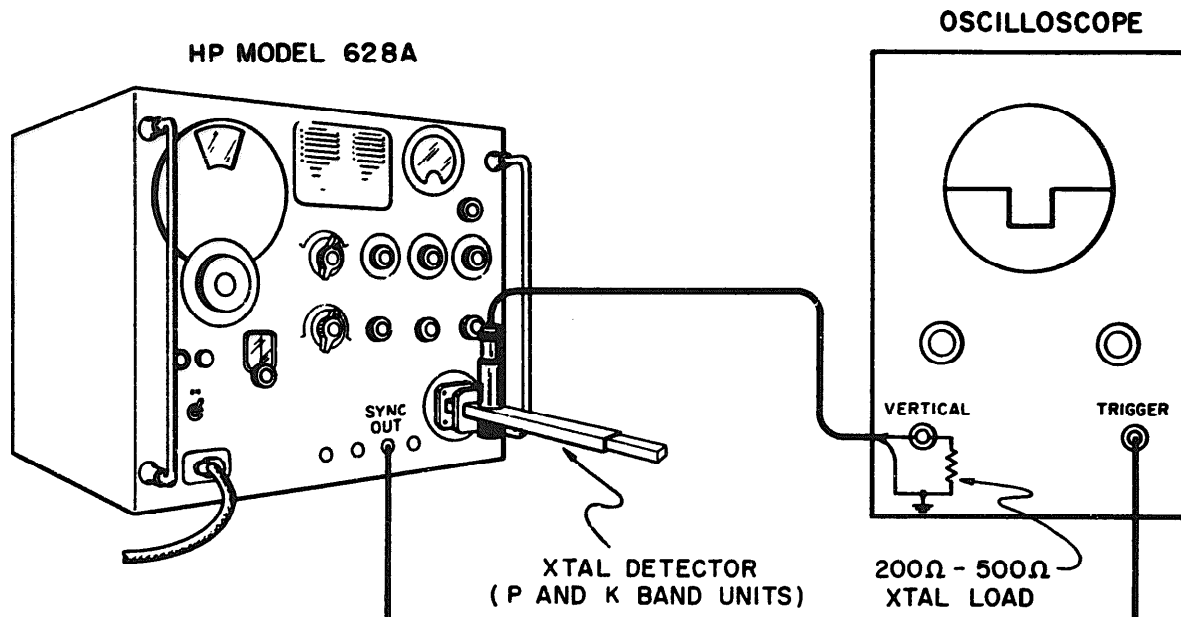

Figure 5-12. Calibration Test Setup
a. Connect test setup as shown in Figure 5-12.
a. Connect test setup as shown in Figure 5-12. DELAYED SYNC OUT signal may be used instead of the RF pulse.
a. Connect test setup as shown in Figure 5-12 except that DELAYED SYNC OUT signal is to be used for triggering oscilloscope.